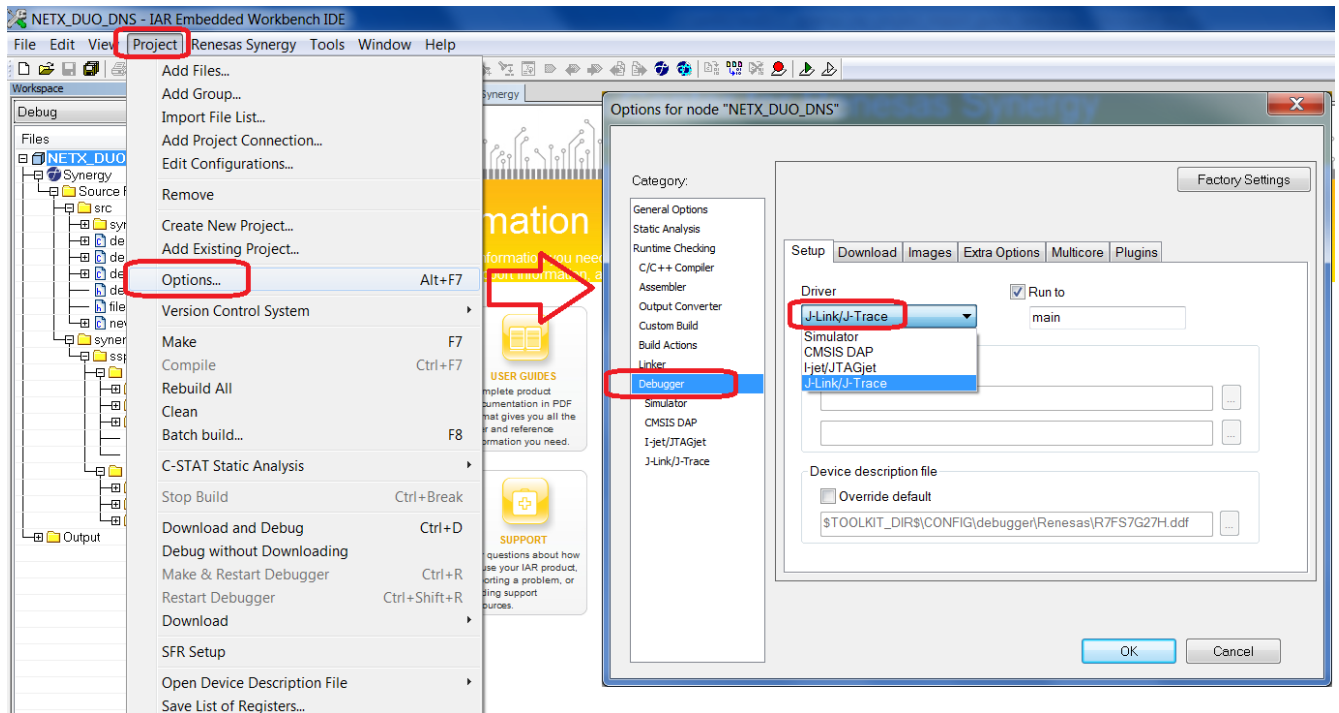

Figure 1.13 Debugger Setup 1
1. Verify the debug probe by clicking **Project > Options > Debugger > Setup > Driver** as shown in Figure 1.13.